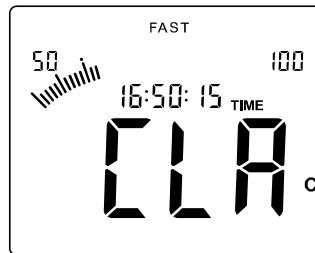

Figure 14
- Press down the  key until the LCD screen displays the symbol CLR, then all recorded data will be deleted, LCD displays as in figure 14: